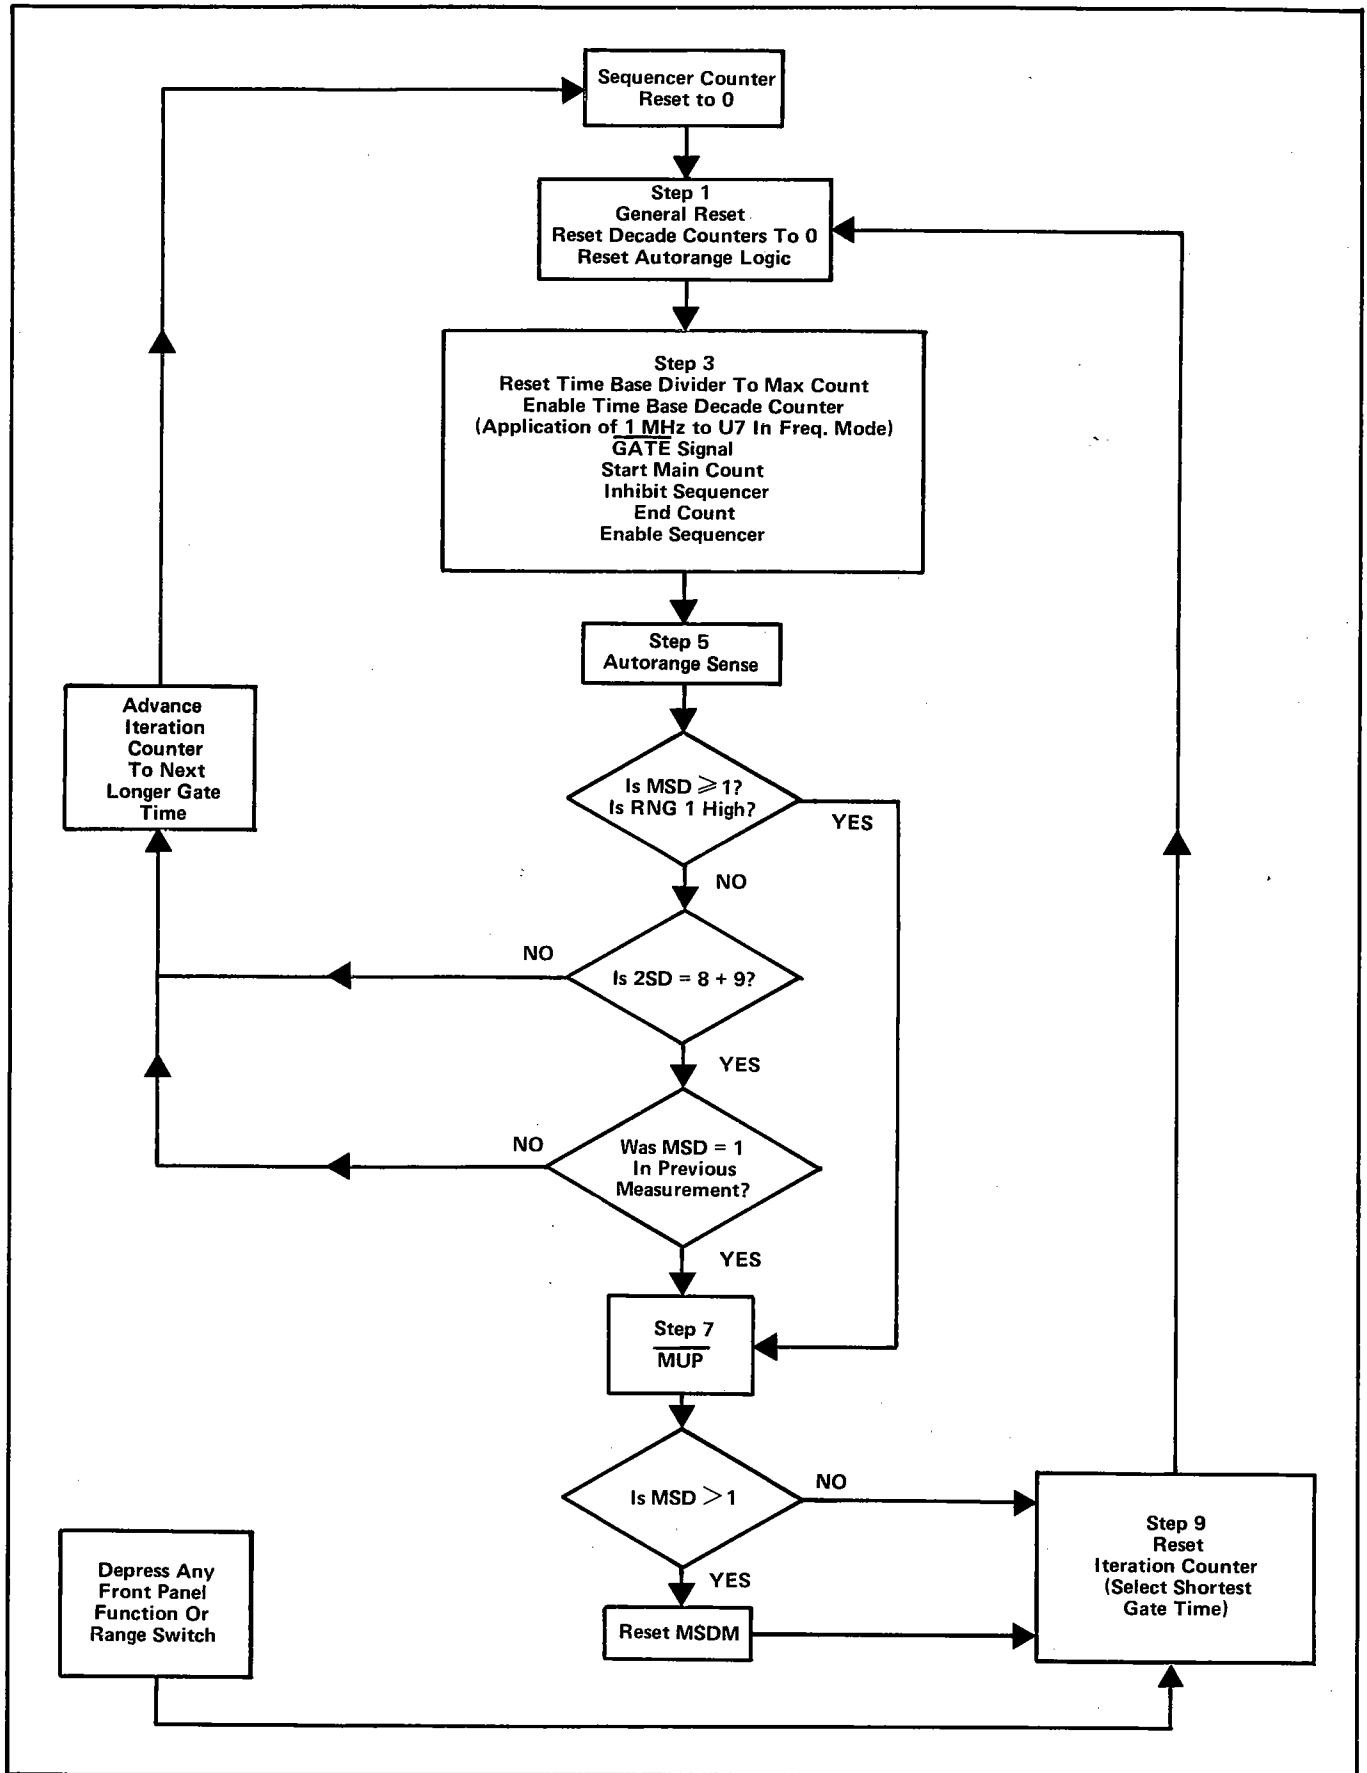

Figure 3-2. 1900A SEQUENCE FLOW CHART
gram control section, begins with step 9. Refer to figure 3-2. Range logic is reset to the shortest gate time. A new measurement always begins with the shortest gate time. Any time a front panel switch is depressed, a new measurement is initiated by resetting the program control to step 9. The next event is general reset (GR), step 1. All the decade counters are set to 0 and the autorange logic is reset. Step 2 is skipped as only odd numbered steps are used to order events. At step 3 the time base dividers in the time base and the range control sections are enabled. The count is initiated by enabling the main gate to apply data to the first decade counter. The signal from the input section is applied to the clock input and toggles the counter. The output from the first counter is used to toggle the subsequent counters. At the end of the measurement period, the main gate is disabled and the count is held.